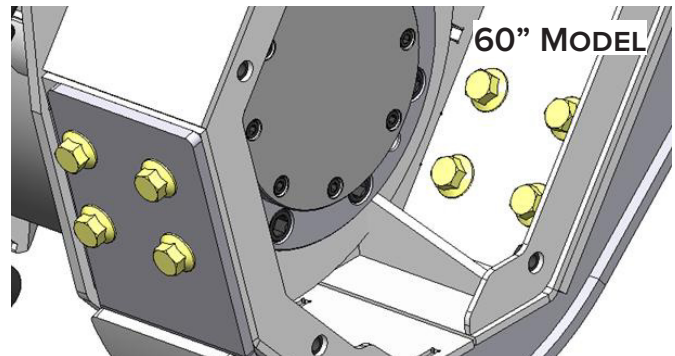
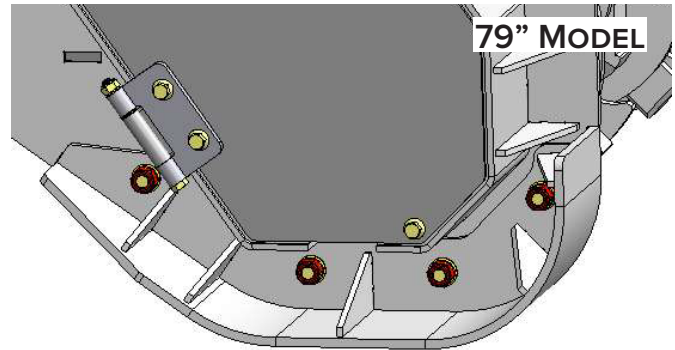

Figure 20
Figure 21
- Remove the skid shoes' bolt and nut fasteners. See Figure 20 for 60" models and Figure 21 for 79" models.